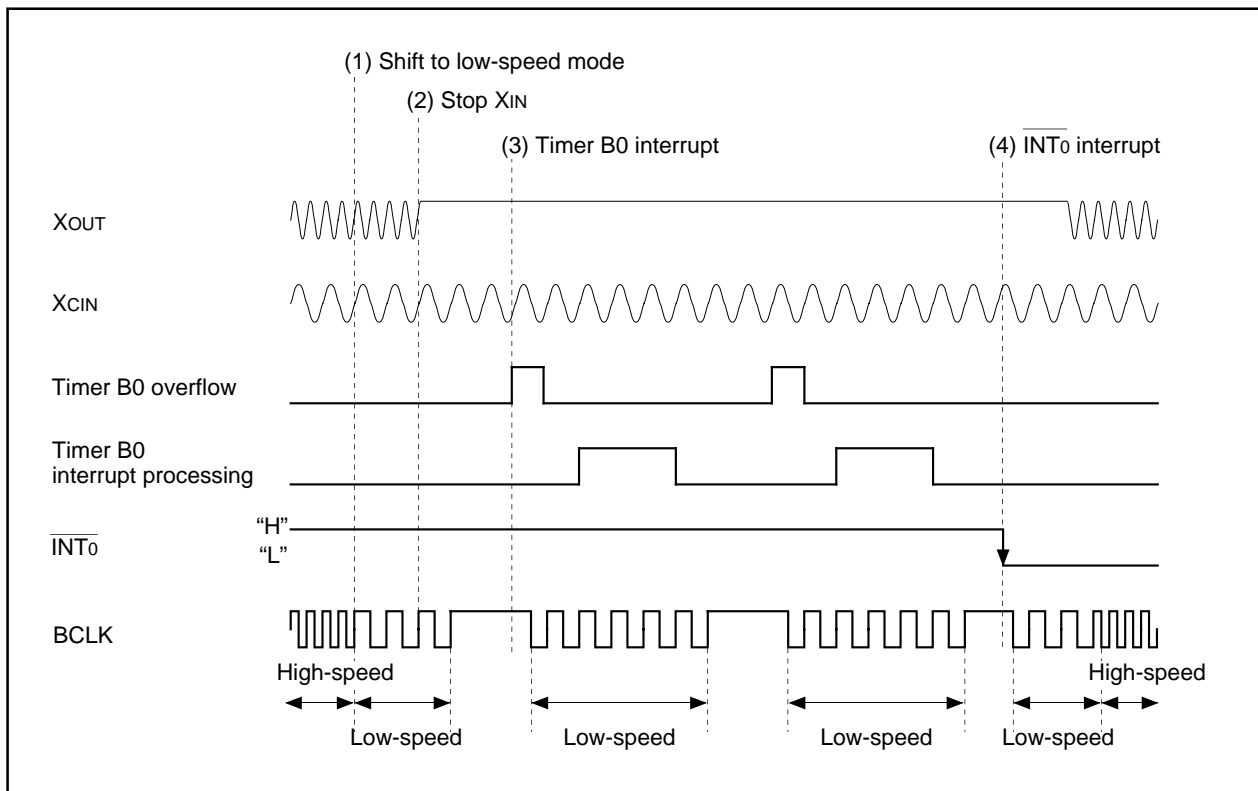

Figure 3.7.1. Operation timing of controlling power using wait mode
**Overview** The following are steps for controlling power using wait mode. Figure 3.7.1 shows the operation timing, and Figures 3.7.2 to 3.7.4 show the set-up procedure.